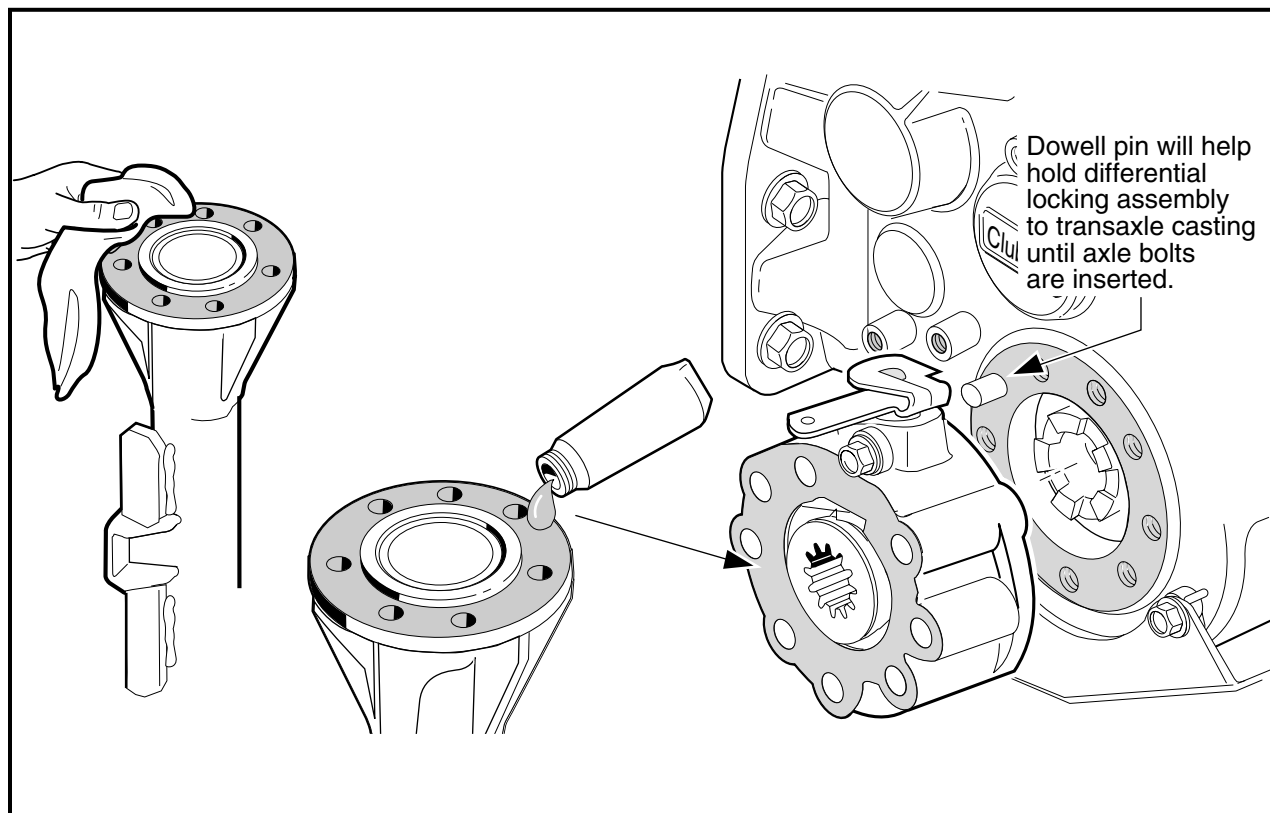

Figure 16b-92 Seal Axle Tube Surface
12.7. Install the left (driver side) axle shaft (82) in the left axle tube (90) (**Figure 16b-9, Page 16b-7**). Using 90° angle (0.090 tip) snap ring pliers, install the retaining ring as shown (**Figure 16b-94, Page 16b-41**).